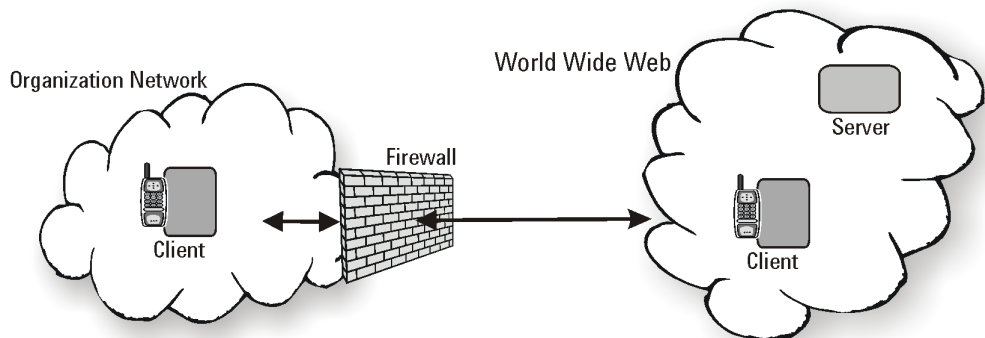

Figure 6 Location 2 - Server located on the world wide web
- Location 2 – the data server system is located on the World Wide Web, outside the firewall. Refer to Figure 6. The client system can operate either side of the firewall. If the client system is within the firewall, it must be able to see the server system. Operating the client and server systems on the world wide web is not recommended because of the many unknown network performance variables.